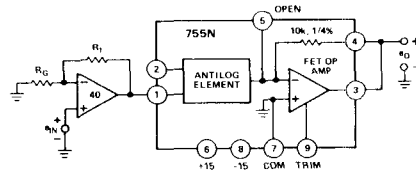

Figure 6. Method for Adjusting $K < 2/3V$
Scale Factor (K) Adjustment — The scale factor may be adjusted for all values of K greater than 2/3V by the techniques described in the log section. If a value of K , less than 2/3V is desired for a given application, an external op amp would be required as shown in Figure 6. The ratio of the two resistors is approximately: